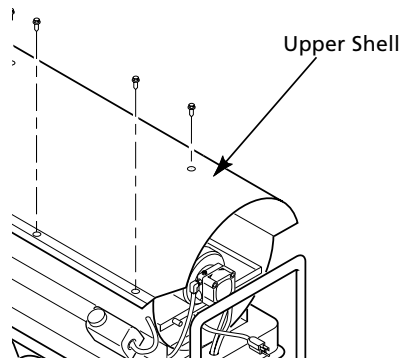

Figure 8 - Upper Shell Removal, Model 3E359B
1. Remove screws along each side and top of heater using 5/16" nut-driver. These screws attach upper and lower shells together (See Figure 8).
1. Remove upper shell (See Figure 8).
1. Remove upper shell (See Figure 8, page 7).